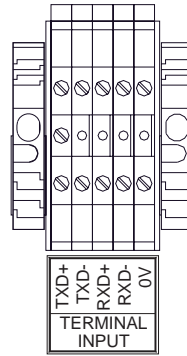

Figure 19 Remote RS-422 connections
4. Connect the RS-422 Serial communications cable to the input terminal blocks inside the 880 Remote Display labeled “TERMINAL INPUT” as shown in (Figure 19).